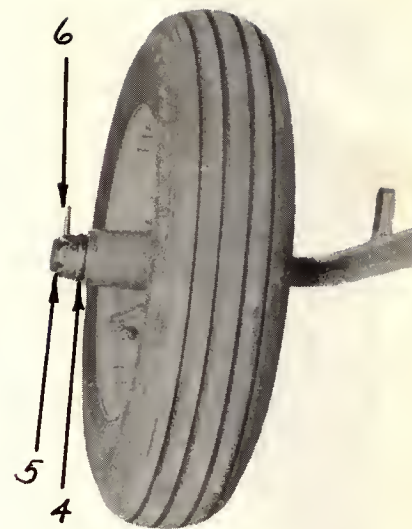

FIGURE 14A
The hub is held in place by sliding washer (4) Figure 14A and step washer (5) on the end of axle and insert a linch pin (6) through one of the adjustable notches in step washer and hole in axle.